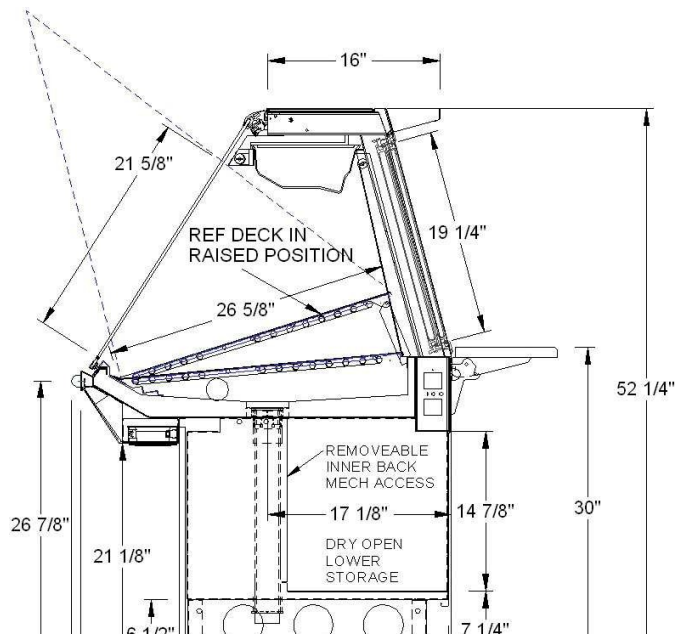

Fig.2, #1
5. Apply liberal beads of case joint sealant (butyl) to the areas (solid dark lines) shown in the diagram below (Fig.2, #1) of the first case.